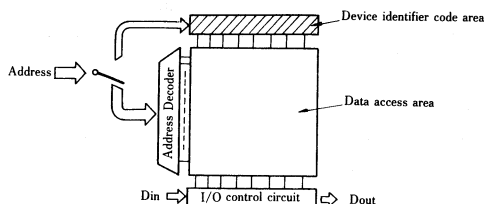

Figure 6-10. Device Identifier Code
Different programming conditions are as follows: (1) program voltage, (2) program timing, (3) high-performance programming algorithm, (4) pin configuration. The Hitachi EPROM has a device identifier code area besides the memory access area, as shown in figure 6-10.